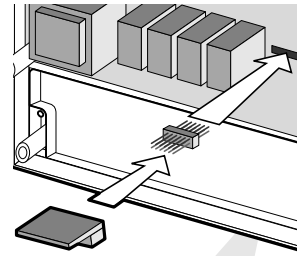

Fig. 4
- insert the dual-row connector (Fig.4) and then the MTCSER0000 card (Fig.4).